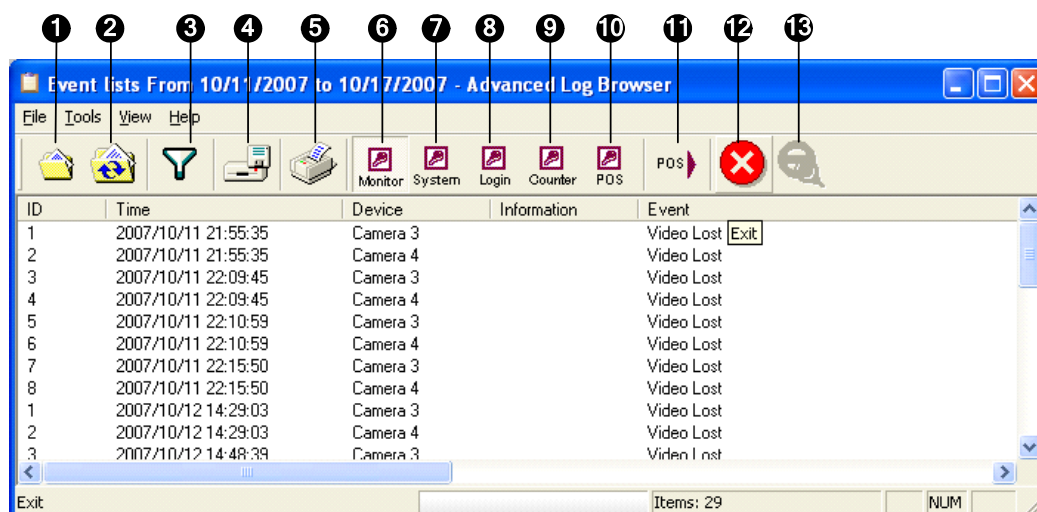

Figure 4-24 Advanced Log Browser
1. On the toolbar, click the desired log table button (Monitor, System, Login, Counter or POS), click the **Filter** button (No. 3, Figure 4-24), and select **Default Filter**. This dialog box appears.
Quick Search is a very useful tool for searching and playing back POS events. In Advanced Log Browser (Figure 4-24), double-click any POS event in the POS table. The Quick Search window will appear. The following figure and table give you an overview on Quick Search's features and functional buttons.